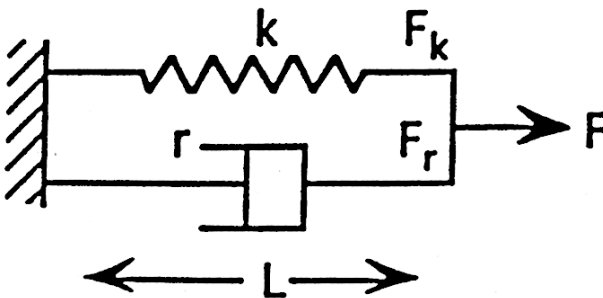

Figure 15
In Fig. 15 the force F , is divided between the two elements, $F = F_k + F_r = kL + rsL$ (in Laplace notation), or
where $T = r/k$ is the system time constant. This is, of course, a *first-order lag*, just like the circuit in Fig. 3 governed by eq (3), with $j\omega$ replaced by s , plus the constant $1/k$. Fig. 15 is a simplified *model of a muscle*.